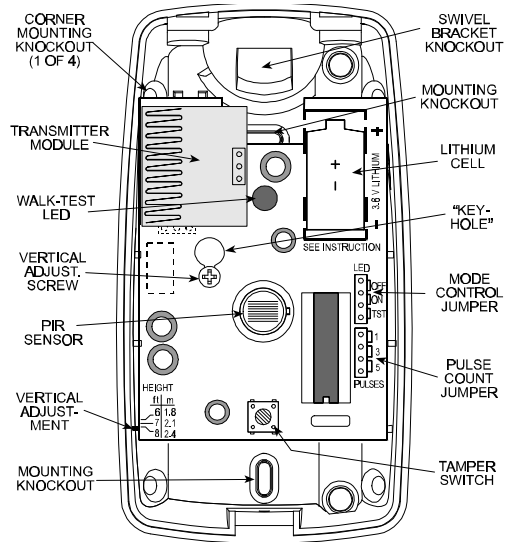

Figure 4. Inside View
B. Insert the battery into the battery clip - observe polarity (see Figure 4).
- Loosen the vertical adjustment screw, slide the PCB down and remove it via the "keyhole" (see Figure 4).